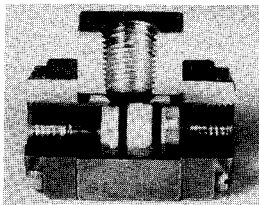

FIGURE 9-4. — SHUTTLE VALVE
Shuttle Valve (Figure 9-4) — Also known as a double check valve, the shuttle valve is a device which will take two (2) supply signals and allow the one with the highest pressure to pass through.